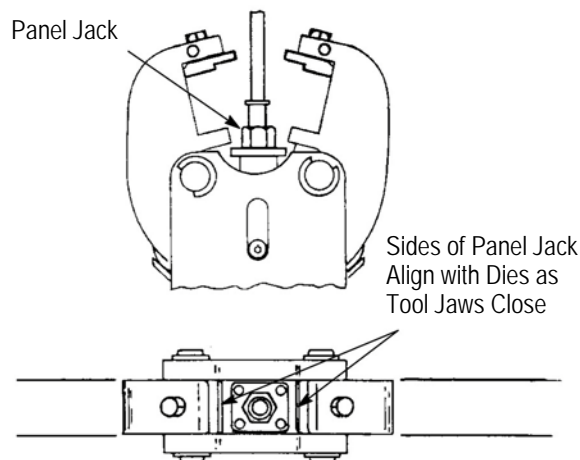

Figure 9
- if crimping a panel jack to the cable, the sides of the panel jack should align with the tool jaws as shown in Figure 9
3. Support the cable-and-connector assembly, and squeeze the tool handles to complete the crimp as shown in Figure 9.